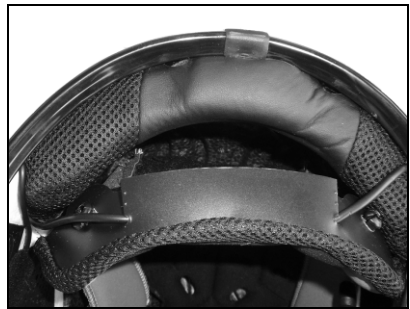

Fig. 23
- Secure the wiring underneath the plastic tab. Close the cut parts using the cable fixing adhesives (Fig. 23).